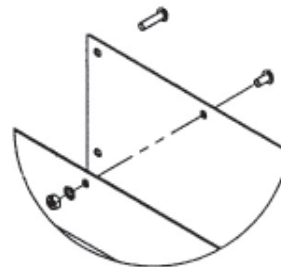

Figure 3
- Attach the Canopy to the side panels. See **Figure 3**.